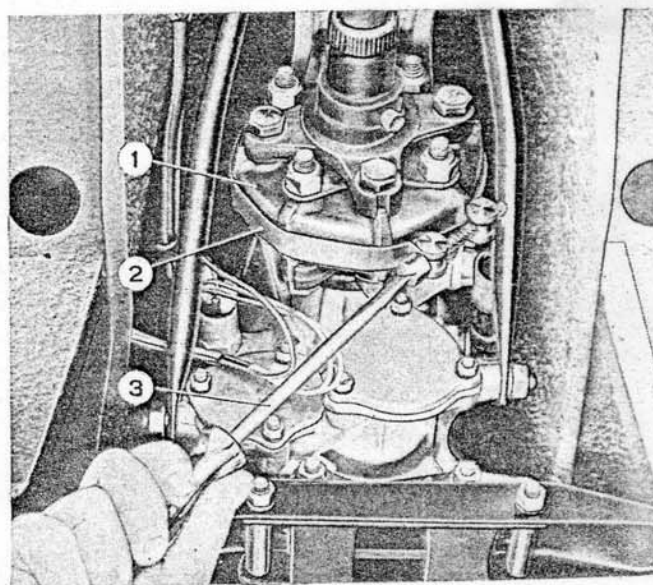

Fig. 19. - Fitting flexible joint band.
- fit band **A.70153** to the flexible joint (fig. 19) and disconnect the prop shaft from transmission;